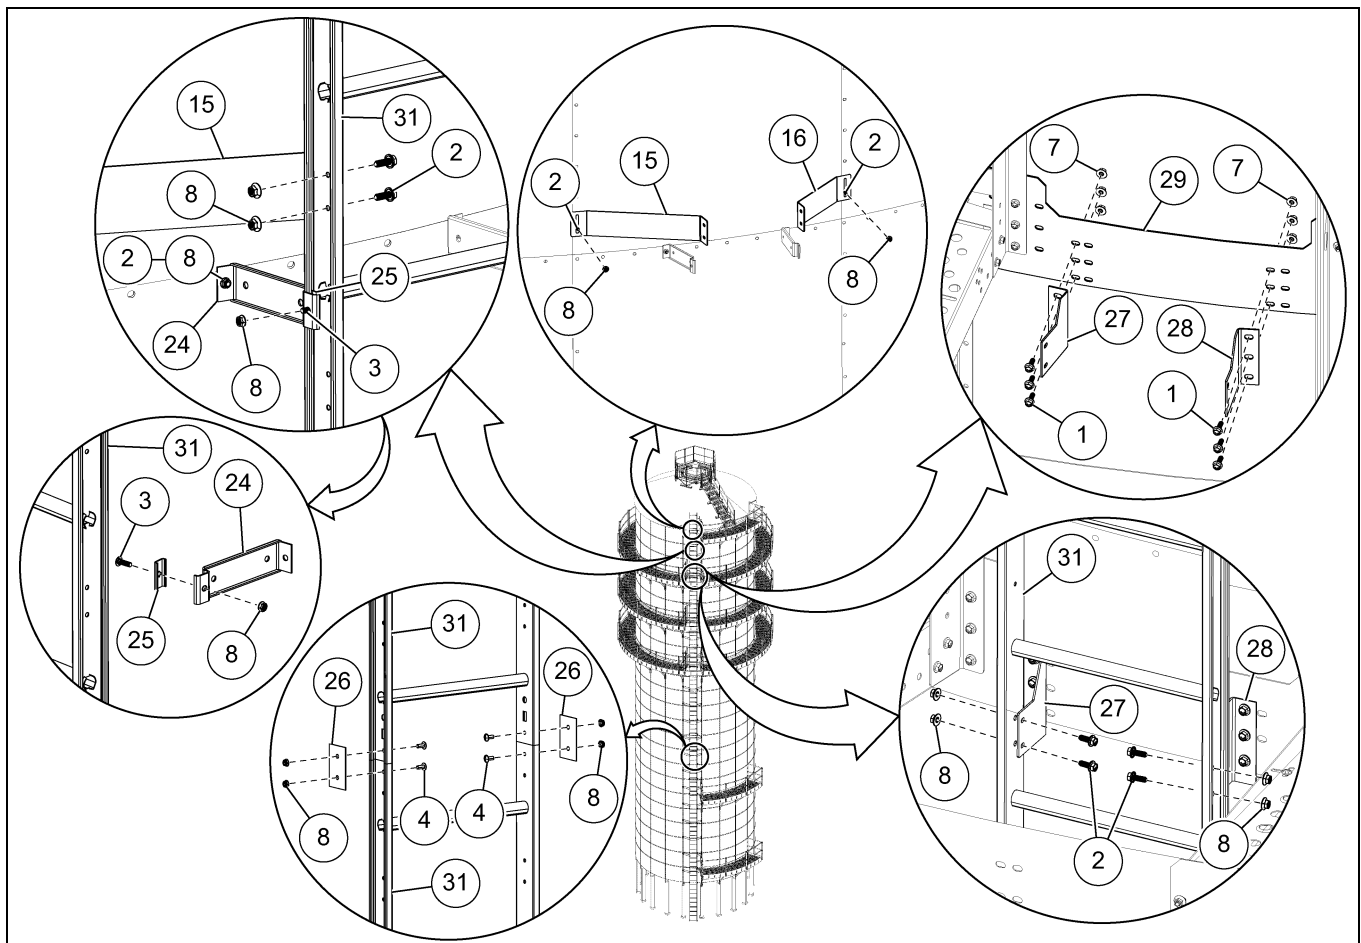

Figure 7G Installing the Ladder to the Dryer
3. Install the ladder section (31) to the ladder brace brackets (15 and 16) using 5/16" x 1" flange bolts (2) and 5/16" flange nuts (8).
4. Slide the ladder wedge (25) along the ladder rail (31) and install it to the ladder stand-off bracket (24) using 5/16" x 1" carriage bolts (3) and 5/16" flange nuts (8).
5. At required places, connect the ladder sections (31) with two splices (26) using 5/16" x 1" flange bolt (4) and 5/16" flange nut (8). **NOTE:** Install bolts (4) with bolt head on the inside of the ladder (31).
6. At catwalks, install the left and right ladder toe board brackets (27 and 28) to the inner toe board (29) using 3/8" x 1" flange bolts (1) and 3/8" flange nuts (7). (See Figure 7G.)